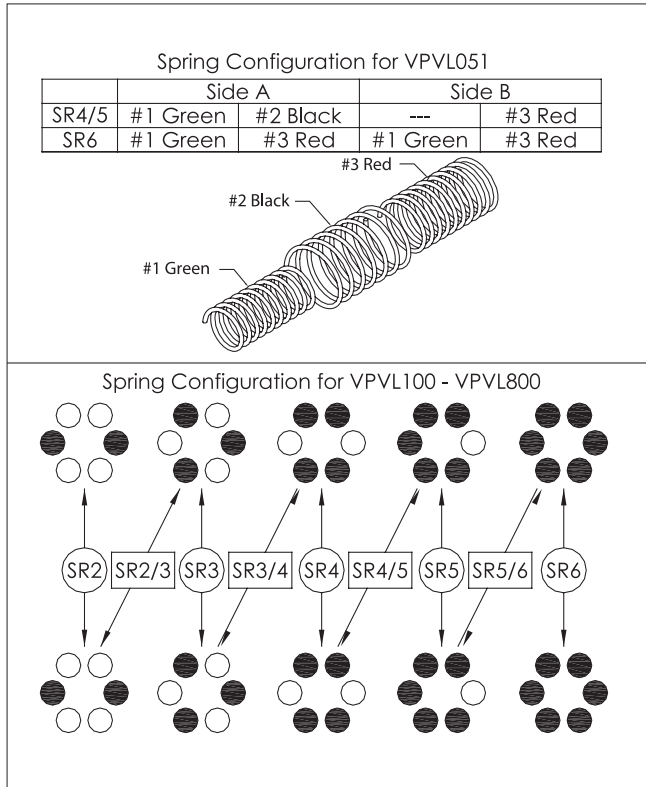

Figure 14.
3. End Cap (30) and Spring Cartridge (17) Assembly, (Figures 14 through 16):
- A. For spring-return actuators, insert the proper quantity of spring cartridges (17) according to the pattern shown in (Figure 14) (referring to the total number of springs).